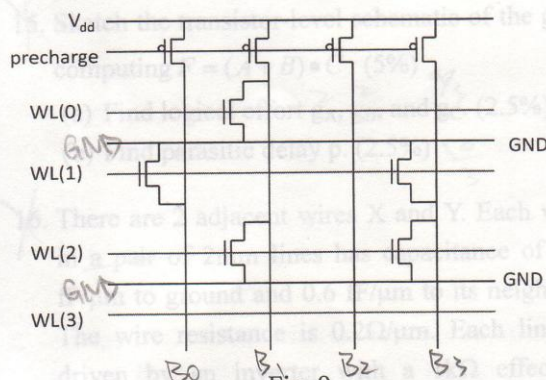

Fig. 9
- (e) What's the 4x4 code in the ROM as shown in Fig. 9. (2%)